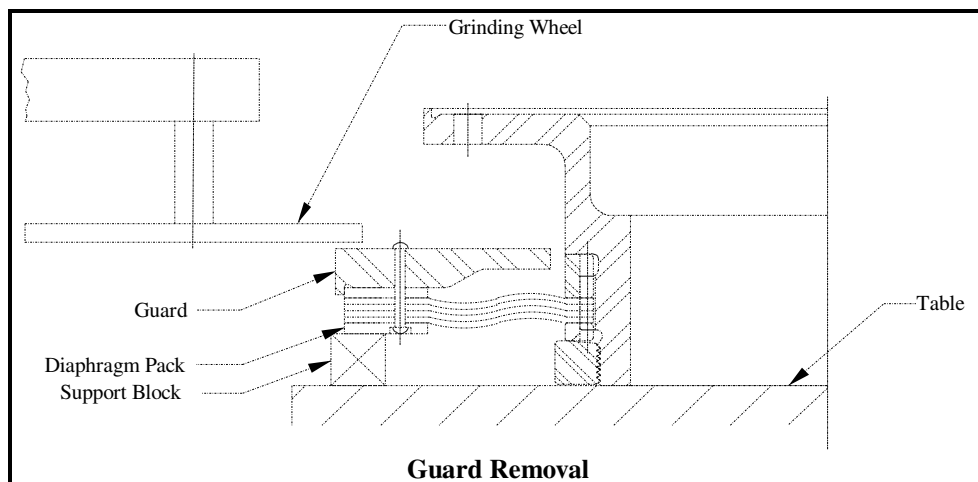

Figure 4-12
- 4.7.1.8 If diaphragm pack inspection is required, remove the two (2) rivets retaining the guards (see Figure 4-12). Using the tapped jacking holes provided in the guard, disengage the guard to diaphragm pack pilot. Pull the guard back to inspect the outer diaphragms for any cracks, dents, distress areas or other abnormalities.